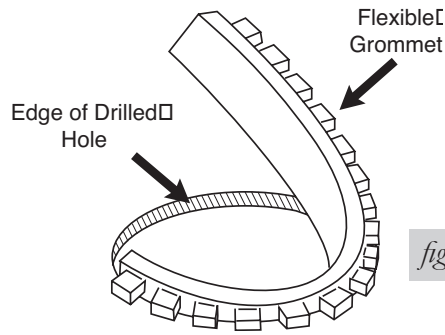

fig. 15
2. Insert the flexible grommet material (J) and 'walk' the material around the inside edge of the hole (Fig. 15).